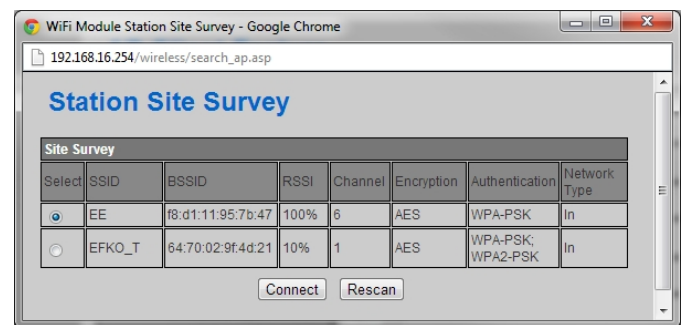

Figure 7.4 – Access point choosing
- 7) In the appeared window choose access point required and save **Encryption and Authentication** parameter. For our example (View figure 7.4) **EE** access point is chosen with the following parameters: